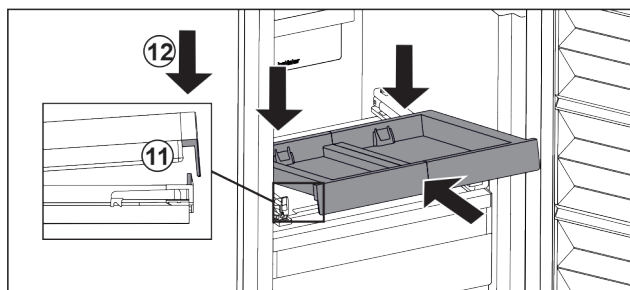

Fig. 93
- Slide in at an angle. Make sure that the stop is behind the lug on both sides. Fig. 93 (11)
- Lower the pull-out board at the front. Fig. 93 (12)